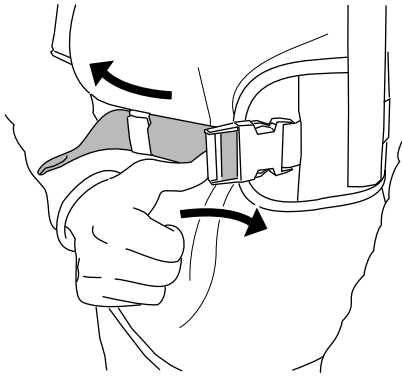

Figure 14
7. If the hip belt is too tight, push sideways on the adjuster to lengthen the straps (Figure 14).